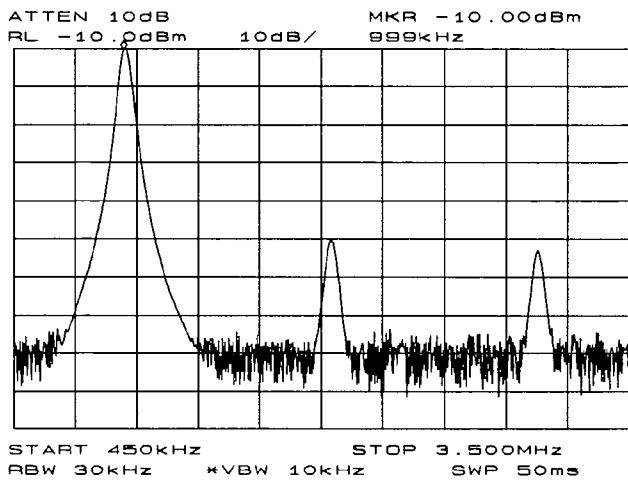
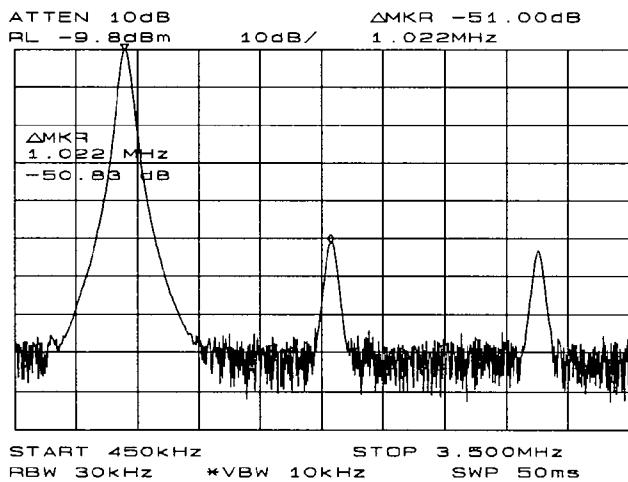
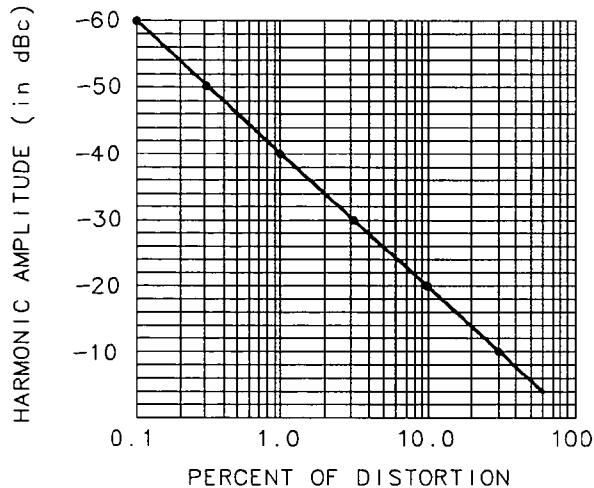
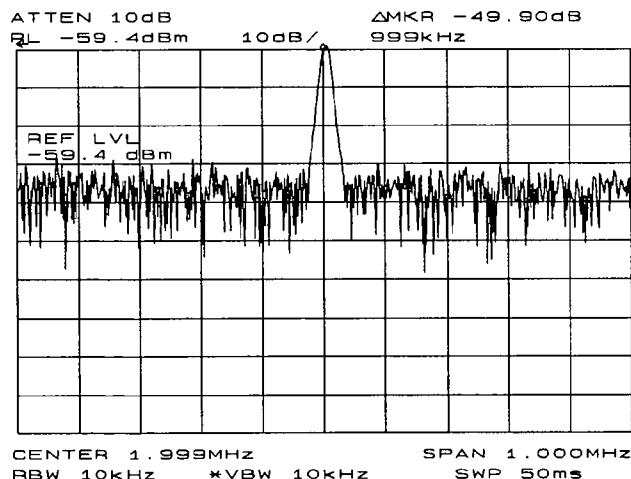

Figure 3-2. Peak of signal is positioned at reference level for maximum accuracy.
Figure 3-3. Harmonic distortion measured in dBc. Marker threshold set to -70 dB.
Figure 3-4. Percentage of Distortion versus Harmonic Amplitude
Figure 3-6. Second Harmonic Displayed in dBc
2. For greatest measurement accuracy, raise the peak of the fundamental to the reference level by pressing [PEAK SEARCH], [MKR ->], and then [MARKER -> REF LVL]. This is shown in Figure 3-2. In order to place a second marker on the second harmonic, set the peak threshold above the noise by pressing [PEAK SEARCH], [MORE 1 OF 2], and [PEAK THRESHLD]. Adjust the dashed line to a level above the noise using either the step keys or the knob. To activate a second marker, press [PEAK SEARCH], [MARKER DELTA], and [NEXT PK RIGHT]. This places the anchor marker on the fundamental, and a second marker on the peak of the second harmonic as shown in Figure 3-3. The difference in amplitude between the fundamental and second harmonic shown in the figure is approximately -50 dB, or 0.33 percent harmonic distortion (see Figure 3-4). To measure the third harmonic, press [NEXT PK RIGHT] again. Continue reading amplitudes and comparing them to Figure 3-4 for each additional harmonic you wish to measure. [PEAK EXCURSN] defines what is and is not a peak; the next-peak routines find the corresponding peak.
2. To measure the second harmonic, press **MKR**, **MARKER DELTA**, **FREQUENCY**, and the step up **▲** key. This step retunes the spectrum analyzer center frequency to the second harmonic. Adjust the harmonic to the reference level. (Note that the **MARKER -> REF LVL** function is not available in marker-delta mode.) This displays the amplitude of the second harmonic as shown in Figure 3-6. The difference between the second harmonic and the fundamental can be converted to a percentage of distortion using Figure 3-4. Again, units can be changed to volts in order to read the voltage ratio of the two signals.